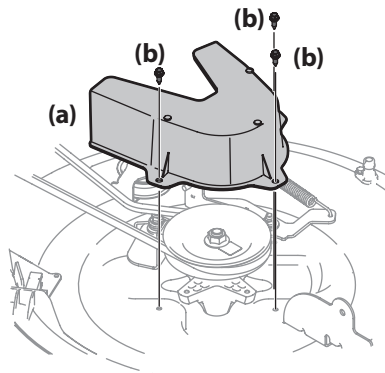
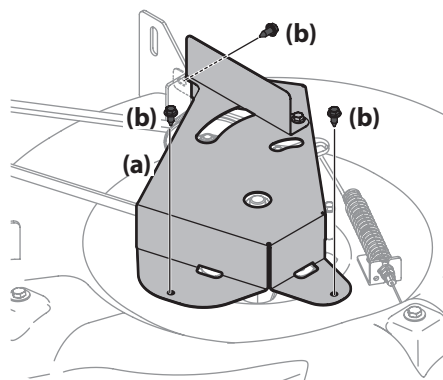

Figure 4-9
Figure 4-10
5. Remove the deck belt cover (a) by removing the three hex bolts (b) that secure it. See Figure 4-9 for 30" decks and Figure 4-10 for 24" decks.